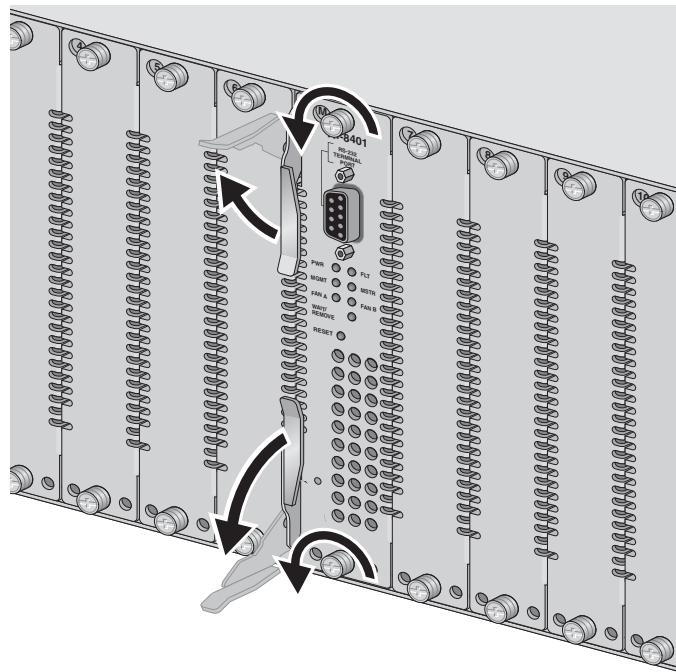

Figure 25 Removing the AT-8401 Management Card
2. Pull the top and bottom locking levers out and away from the card as you slide the card out of the chassis. See Figure 25.